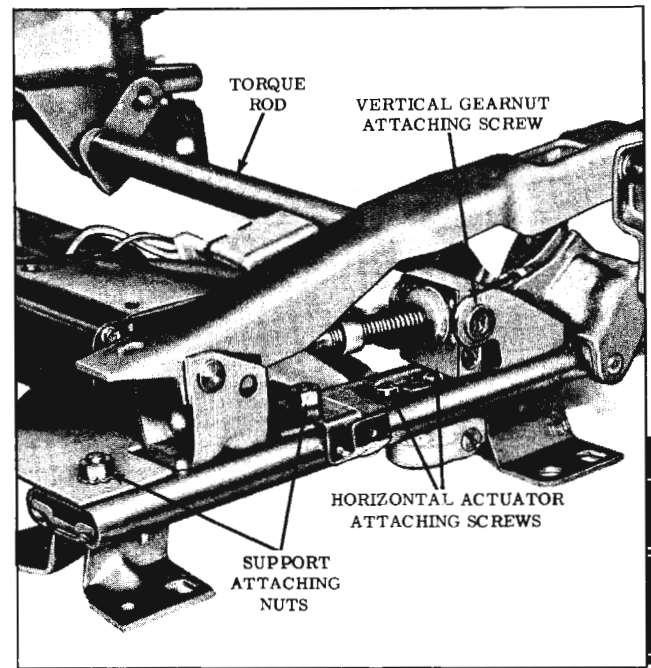
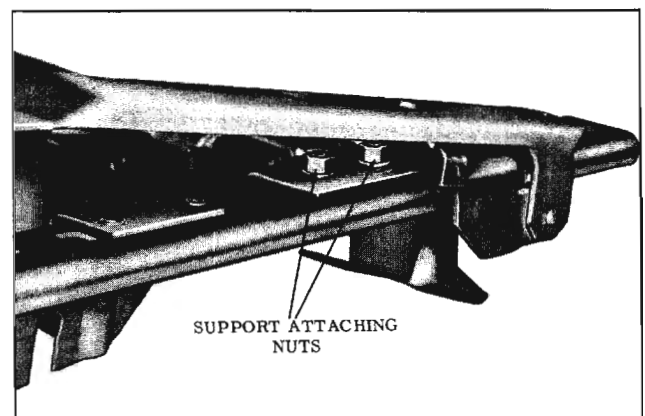

Fig. 16-313 Outboard Bucket Seat Adjuster
Fig. 16-314 Inboard Bucket Seat Adjuster
5. Remove nuts securing motor and transmission support to adjuster assembly. (Fig. 16-313 for outboard adjuster and Fig. 16-314 for inboard adjuster)
2. Using a clutch type screwdriver, remove shoulder screws securing linkage to vertical gear nut. (Fig. 16-313)
5. Remove screws securing horizontal actuator assembly to adjuster lower track; then remove actuator from adjuster assembly. (Fig. 16-313)
3. Remove nuts securing motor and transmission support to inboard adjuster (Fig. 16-314).
2. Remove nuts securing support to both adjusters. (Fig. 16-313 for outboard adjuster and Fig. 16-314 for inboard adjuster).